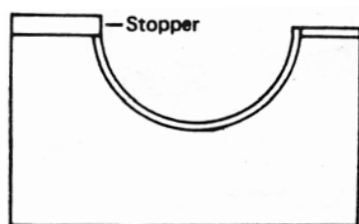

Figure 22
6. Insert the bearings into the connecting rod cap, Figure 22.